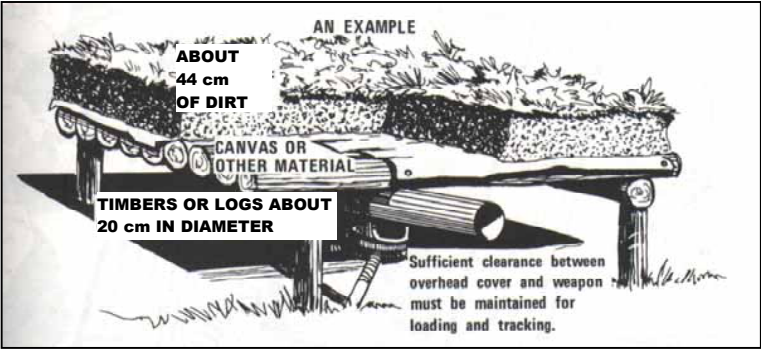

Figure 2-13-4: Example of TOW Trench with OHP
17. **Step 3—Revetment and Overhead Cover (OHC).** Both the crew compartment and missile bay are revetted in the same manner and using the same materials as the standard two-man infantry battle trench. Overhead protection (OHP) can be constructed using any type of material that is strong enough to support 45 cm of dirt, but care must be taken to ensure that OHP does not extend over either end of the weapon (See Figure 2-13-4). Individual OHP or OHC may be constructed as an extension to the No. 2 and No. 3 position. The No. 1 and No. 4 may then dig their positions off of the No. 2 and No. 3 trenches respectively.